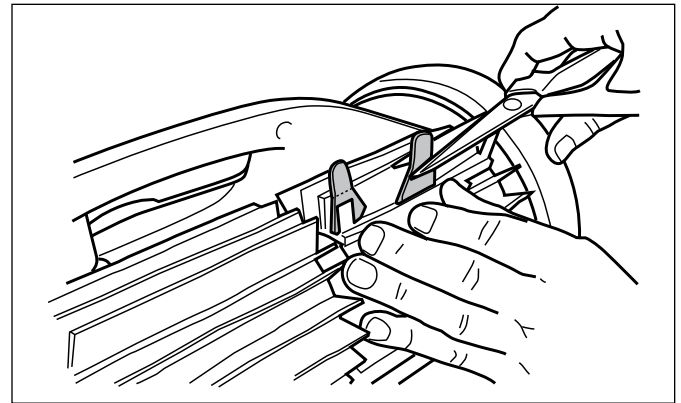

Figure 34. Cut Tabs
- Use a pair of scissors to cut the tabs 3/4 inch from the heel so that they are no higher than the spikes (Figure 34).